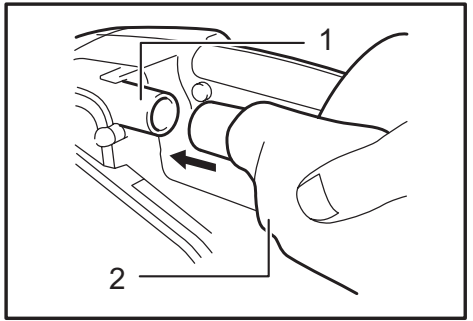

Fig.5
► Fig.5: 1. Dust spout 2. Dust bag